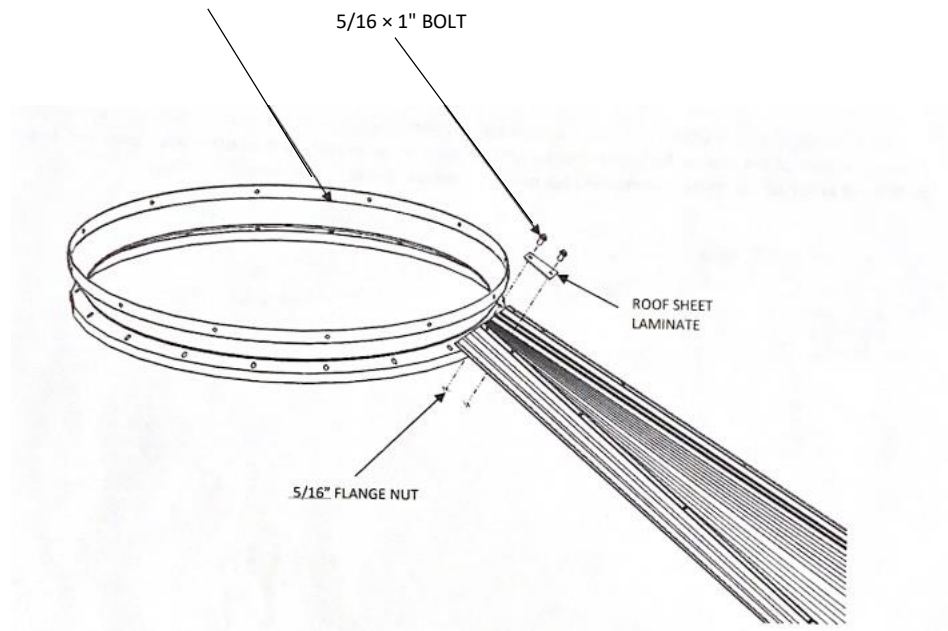

Figure 2 – Roof laminate details
When constructing using a bin with a crane, a minimum of six (6) connections is required at the peak ring. Roof sheet laminate must be attached at the top of the roof sheet to the peak ring. See Figure 2. Attach laminate bracket to the roof sheet and peak ring using 5/16" x 1" bin bolts and 5/16" flange nuts. These laminate brackets are attached to each roof sheet/peak ring attaching location.